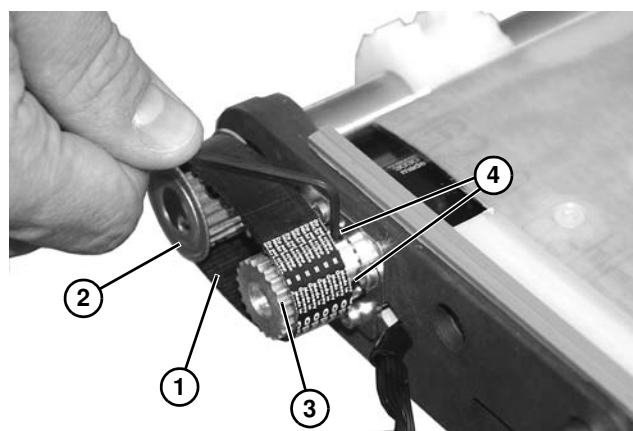

Figure 76
3. Slip timing belt (**Figure 76, item 1**) over driven pulley (**Figure 76, item 2**) and slide drive pulley (**Figure 76, item 3**) through timing belt onto gearmotor shaft.
4. Tighten drive pulley set screws (**Figure 76, item 4**) on gearhead shaft, making sure one set screw is over flat on shaft, and drive pulley is aligned with driven pulley.